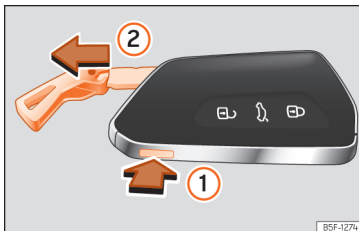

Fig. 68 Vehicle key: remove the key shaft.
- Press the >>> Fig. 68 ① button to release the ring from the key fob and remove the key blade ②. Pressing lightly on the ring leaves it fixed as a key fob.
- Press the >>> Fig. 68 ① button to unlock. Press and hold button ① and at the same time pull on the ring in the direction of arrow >>> Fig. 68 ② to completely remove the key shaft.